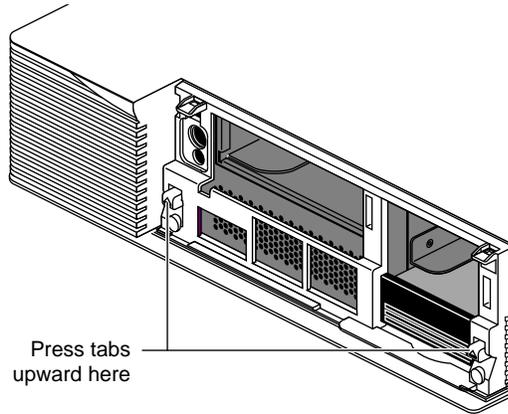

Figure 2-5 Pressing Up the Tabs
4. Press up on the tabs on each side of the drive openings (Figure 2-5).